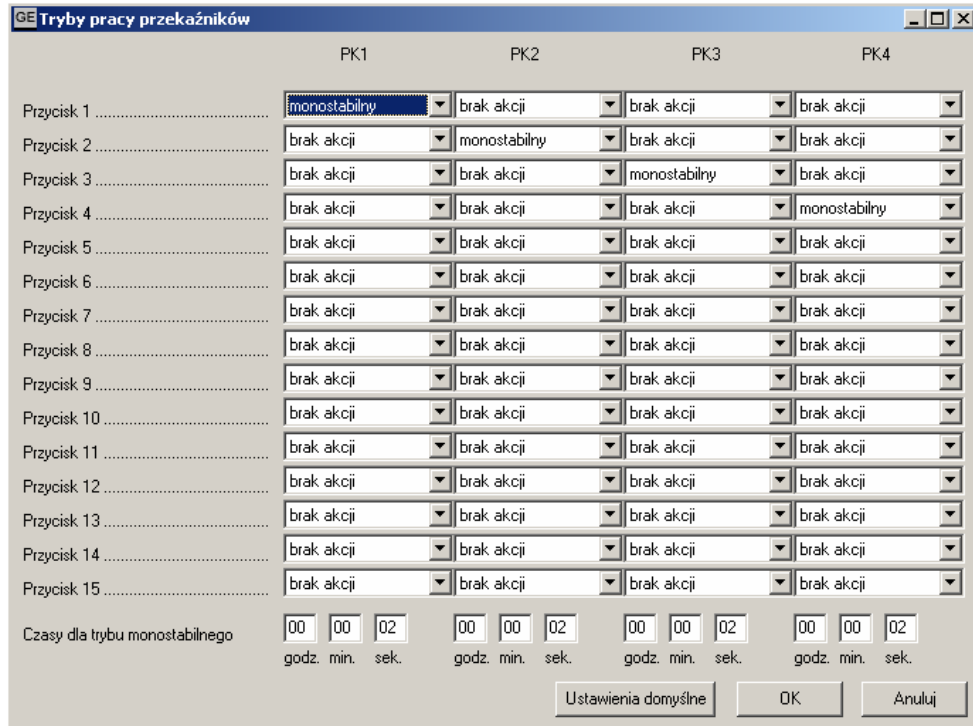

fig. 38
**Point 8.** You can modify the relay's operating mode in the window shown on the fig.38, after clicking on the Relays' operating mode button. To save changes, press the OK button.